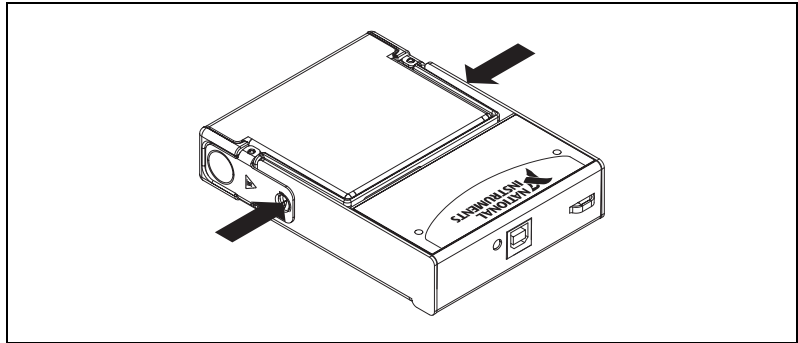

Figure 6. Locking Module into Place
5. Press firmly on the connector side of the NI 9265 module until the latches lock the module into place, as shown in Figure 6.